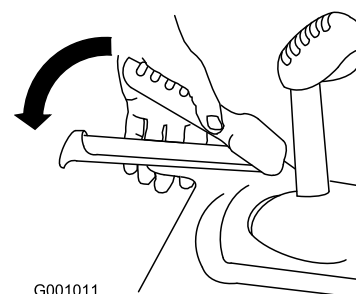

Figure 12
3. Squeeze the left hand (traction) lever to the hand-grip (Figure 12).
6. Squeeze the left hand (traction) lever to the hand-grip (Figure 12).